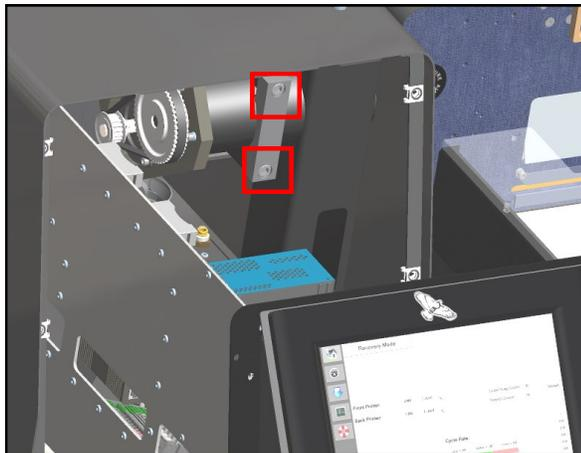

Figure 2-8A. Head Rotation Bolts.
3. Grasp the handle at the bottom of the control panel and pull the panel out to expose the rotation adjustment bolts **Figure 2-8A**.